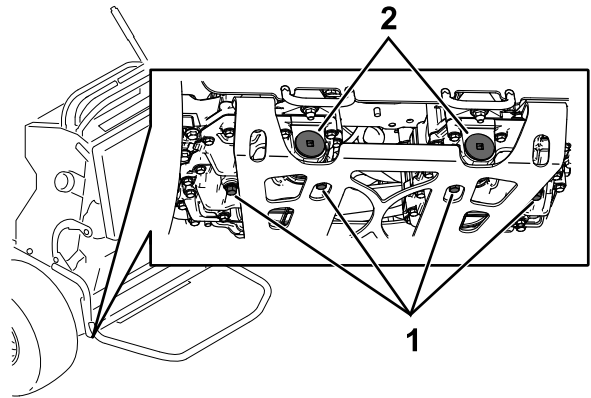

Figure 76
5. Locate the drain plug in the bottom of each transmission and place a drain pan under the plugs (Figure 76).